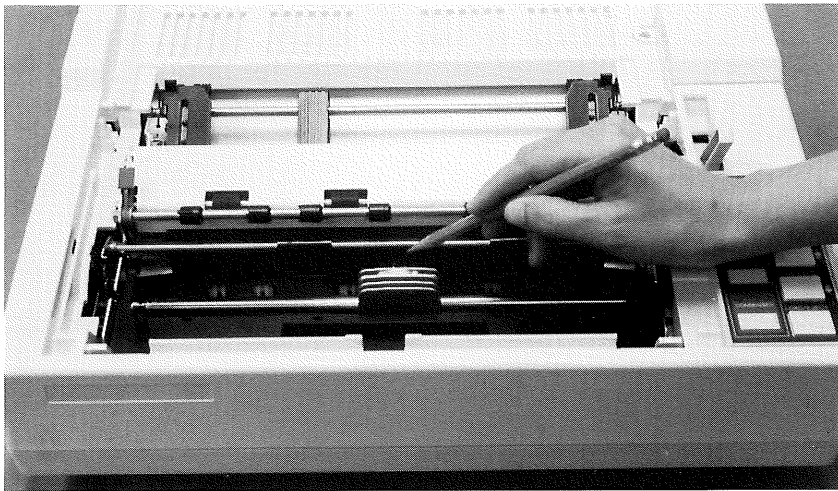

Figure B4.
6. Use a pencil to position the ribbon between the print head and the ribbon guide. Turn the knob on the ribbon cassette in the direction indicated to tighten the ribbon. As the ribbon is tightened, it should slip into place. See Figure B4.